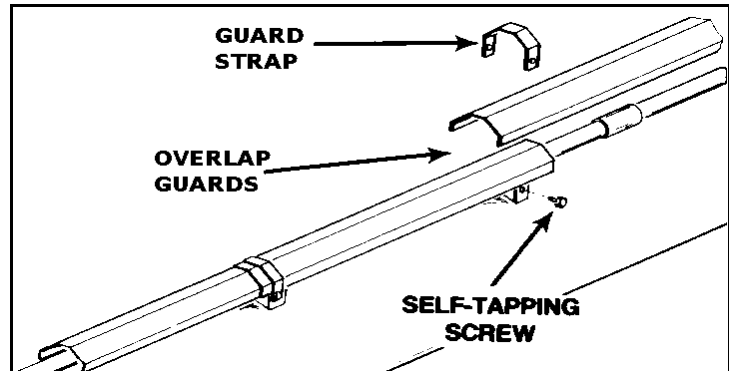

Figure 3.9 Driveshaft Guard Installation
3. To install the remainder of the driveshaft guards, work from the bottom up, overlapping at bearing bracket (Figure 3.9).